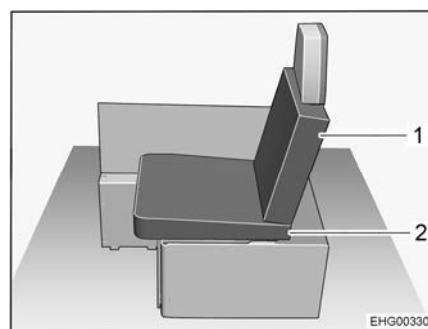

Fig. 41 After conversion
- Place one of the seat cushions of the left-hand divan as seat cushion (Fig. 41,2) on the bench seat. Note the wedge shape of the seat cushion: The seat cushion must be slightly inclined towards the backrest (see Fig. 41).
- Attach one of the included additional cushions as back cushion (Fig. 41,1) to the backrest of the attachable seat.